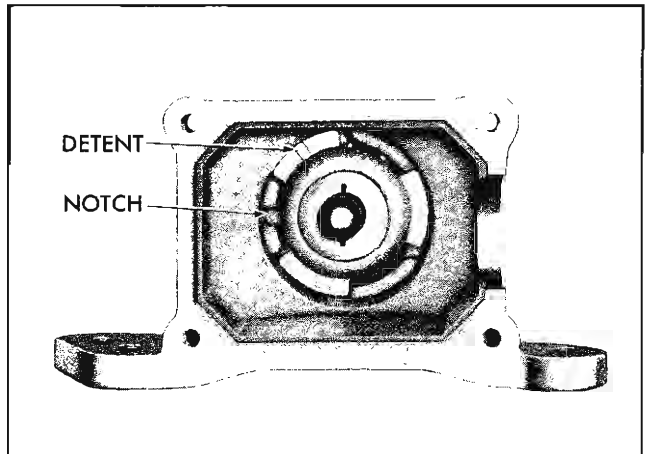

Fig. 7-14 Installing Spring Cup Seat
6. Install spring cup seat with seat detent aligned to engage housing notch (Fig. 7-14). Depress spring cup and rotate spring cup seat until three seat extensions fully engage three housing shoulders.